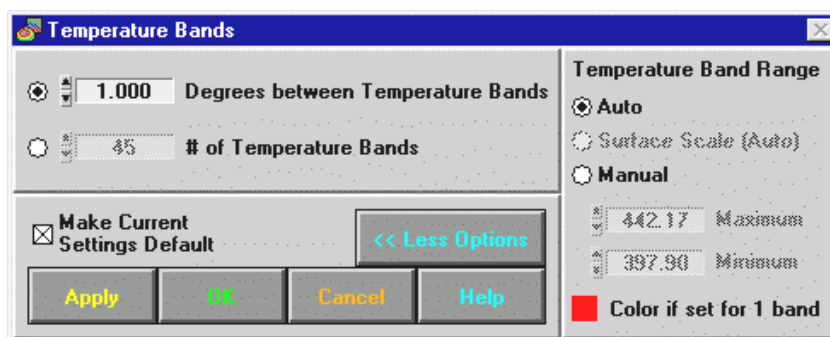

Figure 4-17. Temperature Bands Window
- To change the temperature band range, click on the **Arrow** icon on the Surface display window and select **Temperature Bands**. The Temperature Bands window opens, as shown in Figure 4-17.